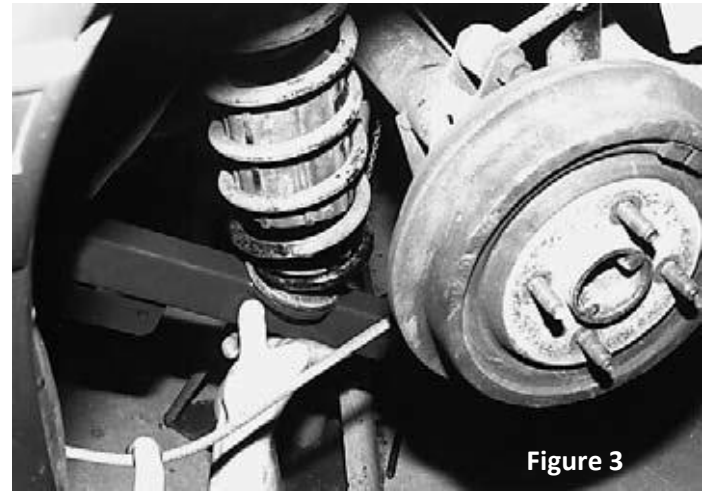
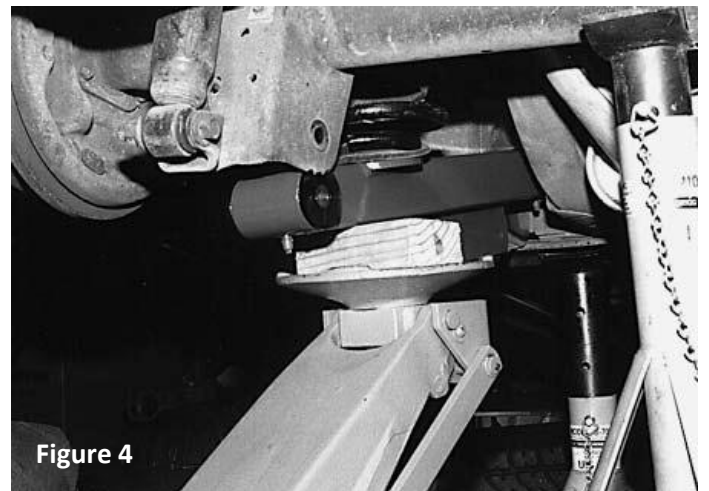

Figure 3
Figure 4
4. Re-install the spring and all rubber insulation pieces, making sure that the opening at bottom of the spring faces the rear of the car (see figure 3). Use a block of wood or a similar support between the floor jack and the trailing arm to prevent damage to the zerk fitting (see figure 4).